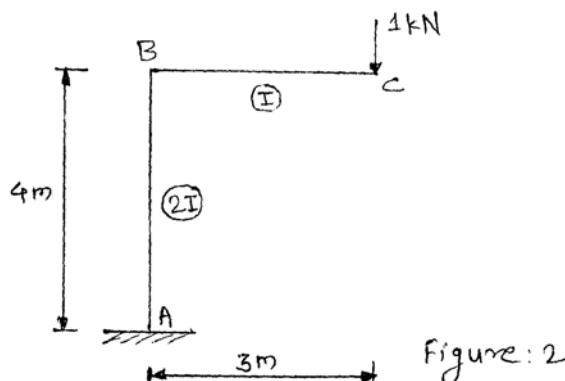

Figure: 2
- b)** Determine the vertical deflection using strain energy method of point C in the frame shown in figure 2. Given $E = 200 \text{ kN/mm}^2$ and $I = 30 \times 10^6 \text{ mm}^4$. [9]